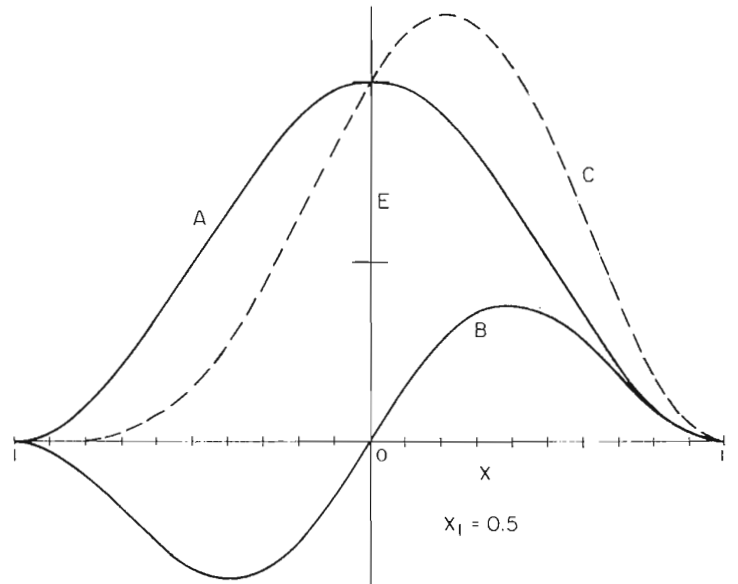
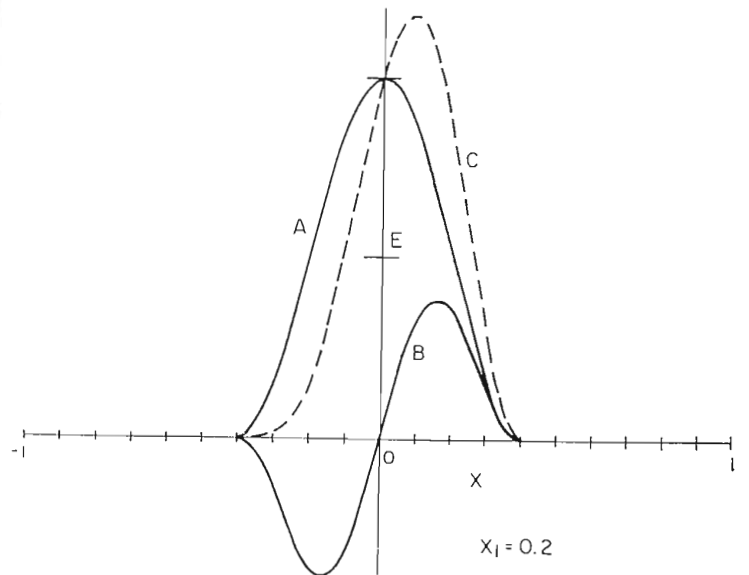
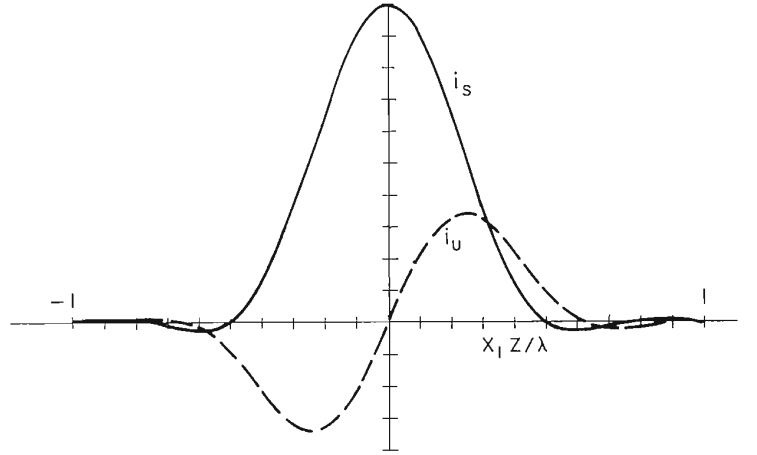

FIG. 7. The field distributions of Fig. 6 replotted as a function of  $x$ , ( $x = \sin \theta$ ).
FIG. 9. A replot of Fig. 8 as a function of  $x$ .
FIG. 11. The odd and even functions of current distributions to obtain the field intensities of Figs. 6 to 10.
Curve A of Fig. 6 shows the even function of equation (16) plotted as a function of the angle,  $\theta$ , while Curve B shows the odd function of equation (17), where  $x_1 = 0.5$ . Curve C is the sum of the two field patterns. The same set of curves have been replotted as a function of  $x$  in Fig. 7.
This function is plotted in Fig. 11 as  $i_s$  and is equally applicable to the field distribution of Fig. 7 or Fig. 9.
The odd-function current density distribution of (22) is plotted as the unsymmetrical distribution labeled  $i_u$  in Fig. 11.